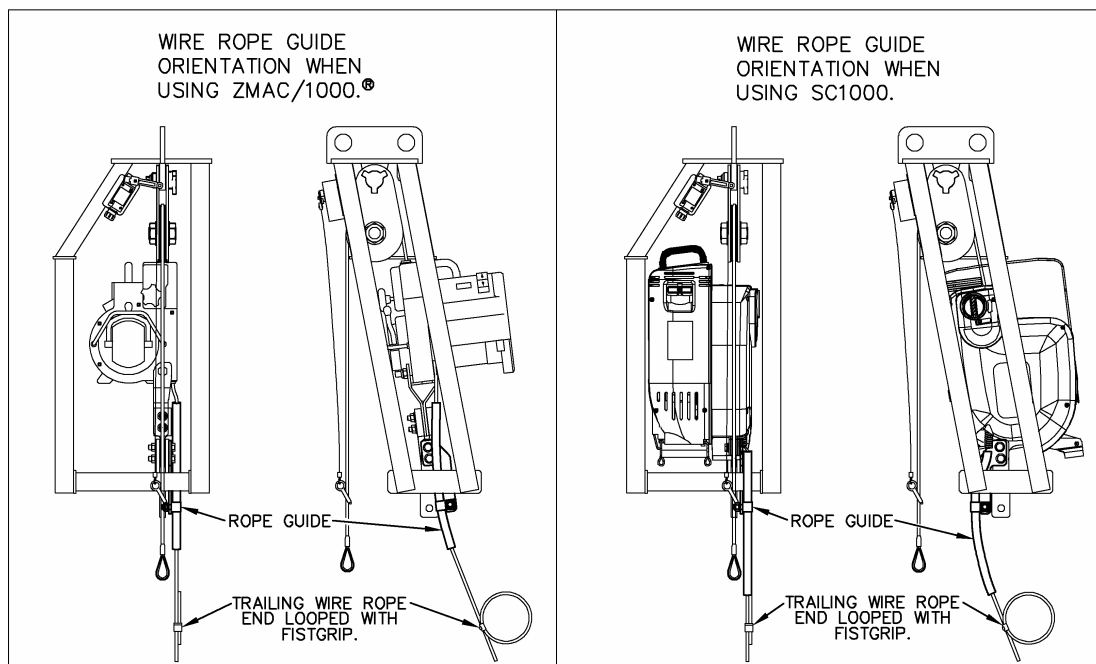

Figure 10.
3. To aid in directing the trailing wire rope, the material hoist frame is equipped with a wire rope guide. The wire rope guide is attached to the material hoist frame at the hoist connection point. The trailing wire rope shall be directed into the guide spring and then the rope will exit the guide spring in the direction desired. Refer to figure 10 for the illustration of the material hoist wire rope guide.